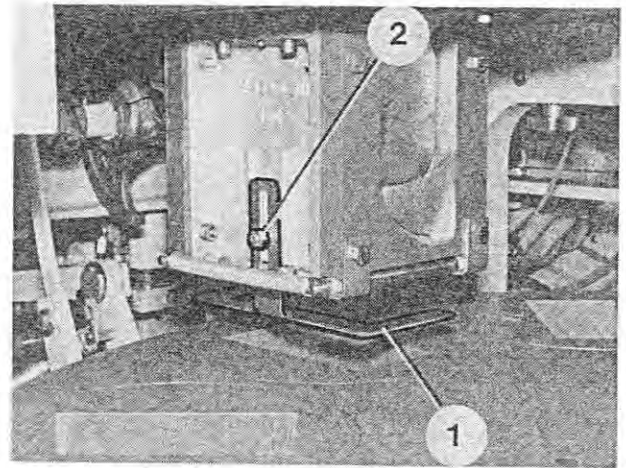

Fig. 188
5. Adjust the pouch stripper (Figure 188/1), loosening the hex nut (Figure 188/2) and re-locating the pouch stripper in such a way that it is 2 mm above the upper edge of an inserted pouch. Tighten the hex nut.